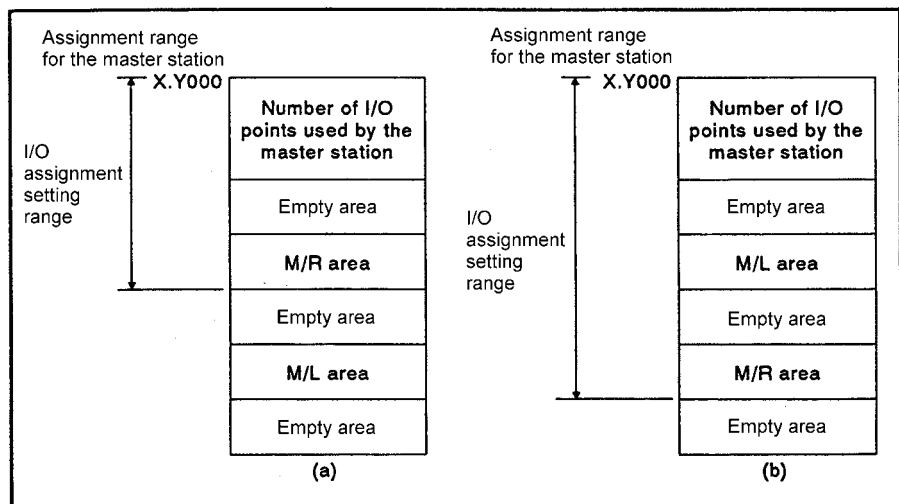

Fig 7.48 I/O assignment setting range
- (a) If the M/L area is assigned after the M/R area, it is not necessary to assign inputs and outputs to the local station setting range. (Refer to Fig 7.48 (a).)
- (b) If the M/L area is assigned after the M/R area, it is necessary to assign inputs and outputs to the local station setting range. (Refer to Fig 7.48 (b).)
In the I/O assignment setting, the device range is set with the assumption that the input modules or output modules are installed in the area of "M/L area" or that empty slots exist in the "empty area (range marked by *)" Fig 7.48.